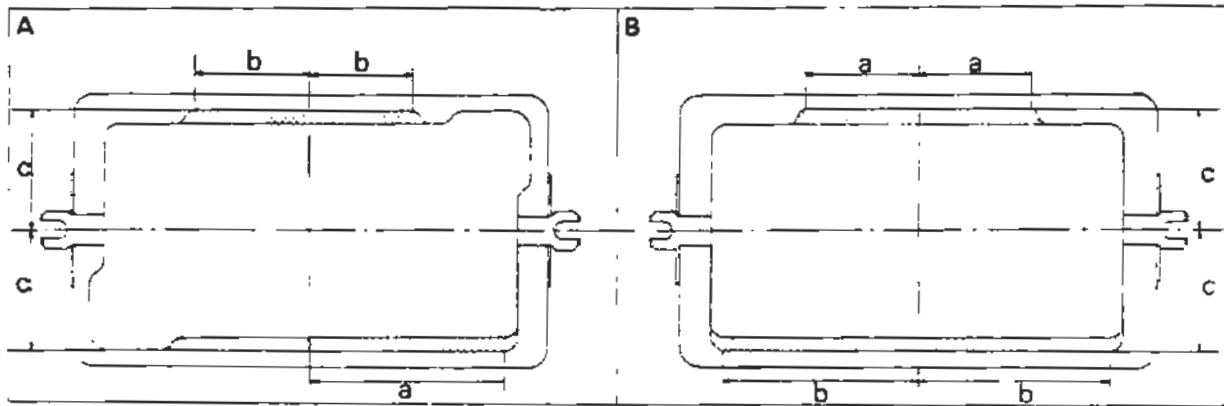

Figure 3 - Battery clamping plate shaping
B Motor cars with either battery clamping plate UD 10534 or UD 15921 (see Fig. 3).
- 4 Referring to Figure 3, mark out the areas of metal to be removed from the clamping plate. (Without this metal removed, the clamping plate would not fit the new Chloride battery).